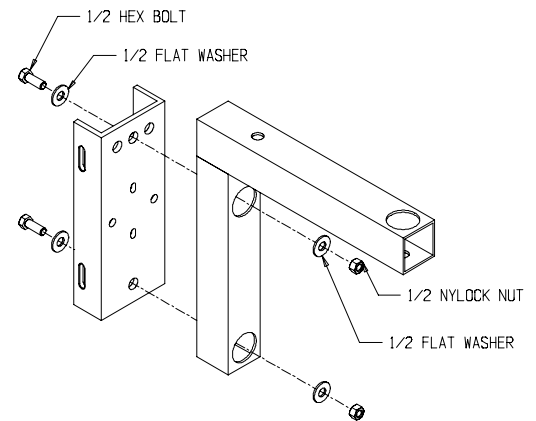

Figure 1: With Optional Pole Mount Arm
Step 1: Secure Support Arm to Pole Adapter: (Figure 1).